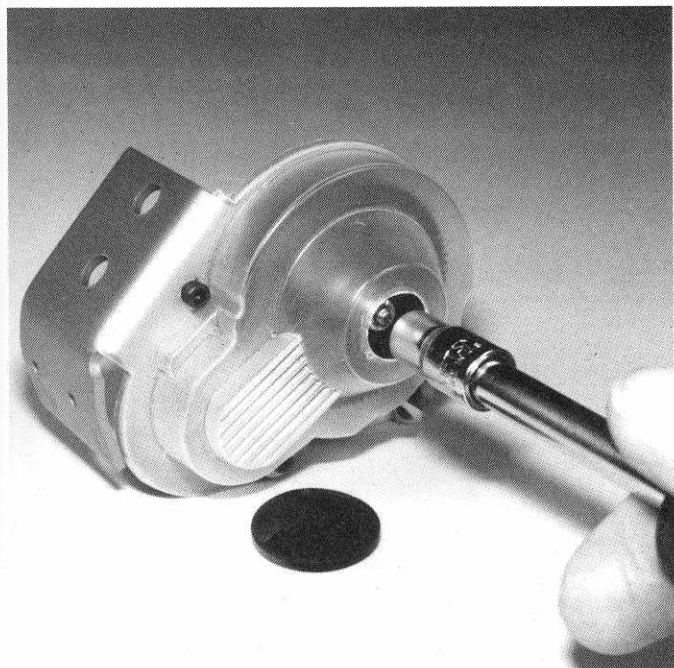

Fig. 69
□ **Fig. 69** You'll be able to make clutch adjustments quite easily right before the start of the race with a hex driver.